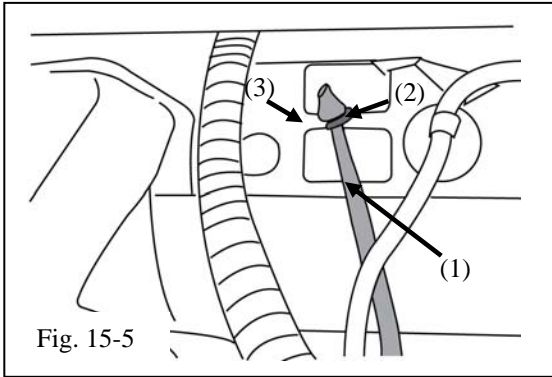

Fig. 15-5
- (e) Pull the pink tension cord (1) upward on the right side of the seat and use one hog ring (2) to attach it to the metal seat structure (3). (Fig. 15-5)